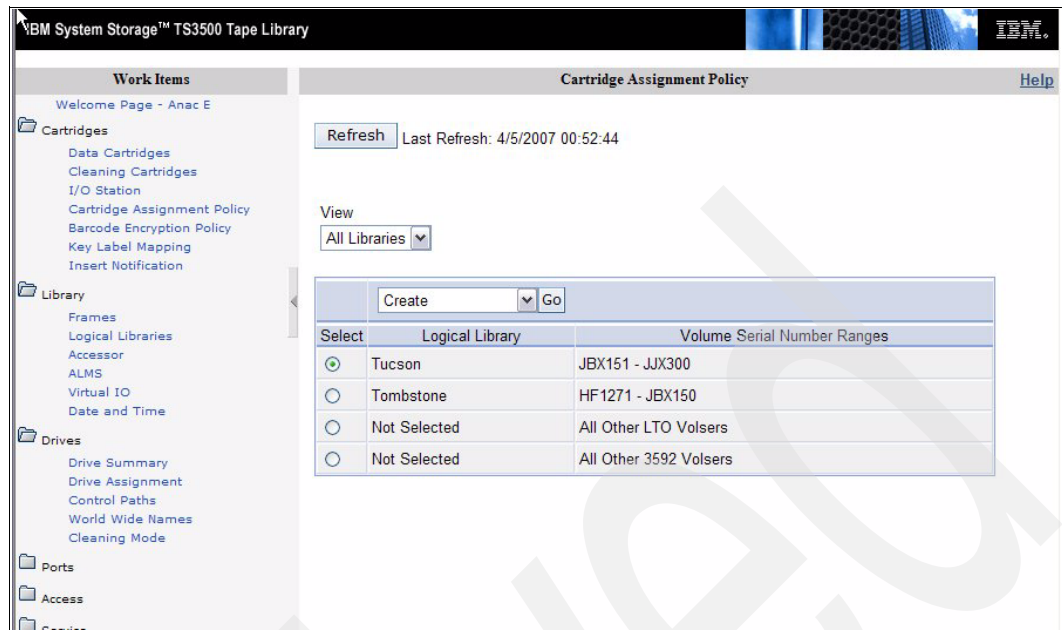

Figure 2-54 Cartridge assignment policy main screen
- To assign a cartridge assignment policy, on the left-hand side, select **Cartridges** → **Cartridge Assignment Policy**. The Cartridge Assignment Policy window appears (Figure 2-54).